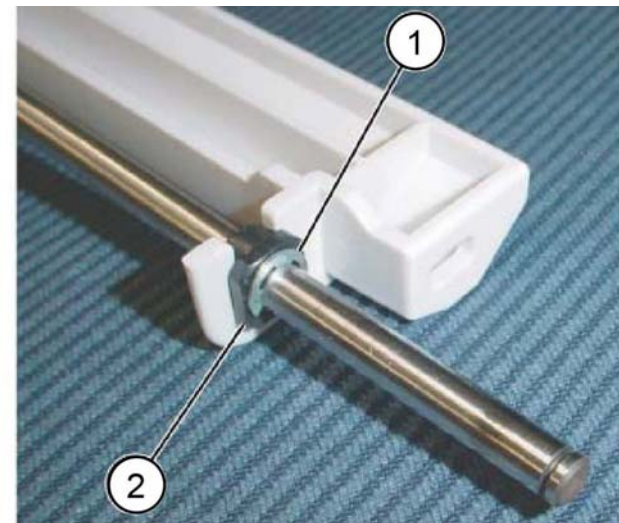

Figure 6 Bearing removal
8. Remove the bearing, Figure 6:
- a. Remove the E-clip (1).
- b. Remove the bearing (2).